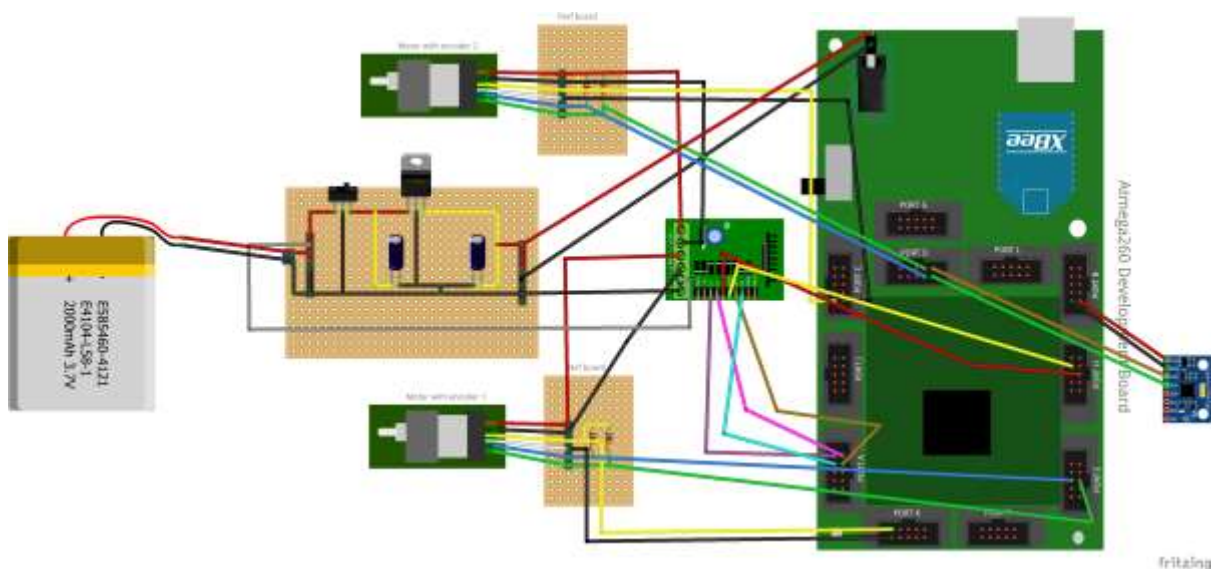

Figure 6: Power connection for testing
6. Now power up the board by connecting Li-Po battery to L298 and Atmega2560 development board. For L298 board power is supplied by connecting battery to + and - connector. For Atmega2560 battery has to be connected through DC jack as shown in Figure6.